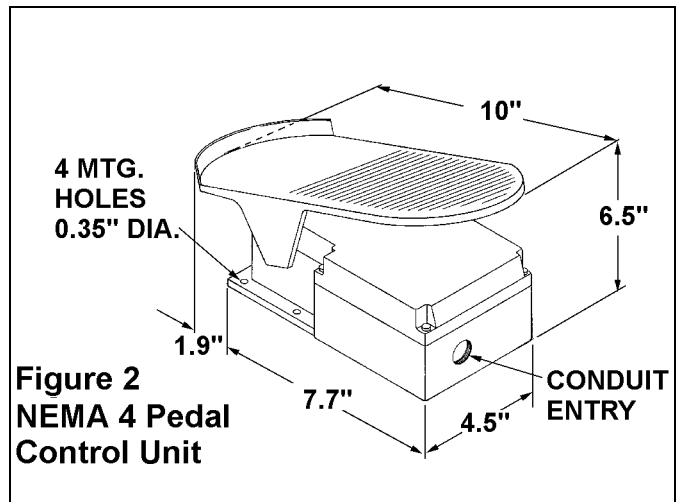

Figure 2 NEMA 4 Pedal Control Unit
2.10.(a): Figure 2 shows the foot pedal unit. It consists of a floor mounted, NEMA 4, cast aluminum enclosure containing 3 switches and a potentiometer. The pedal drives the potentiometer via a gear set and the switches via independently adjustable cams.